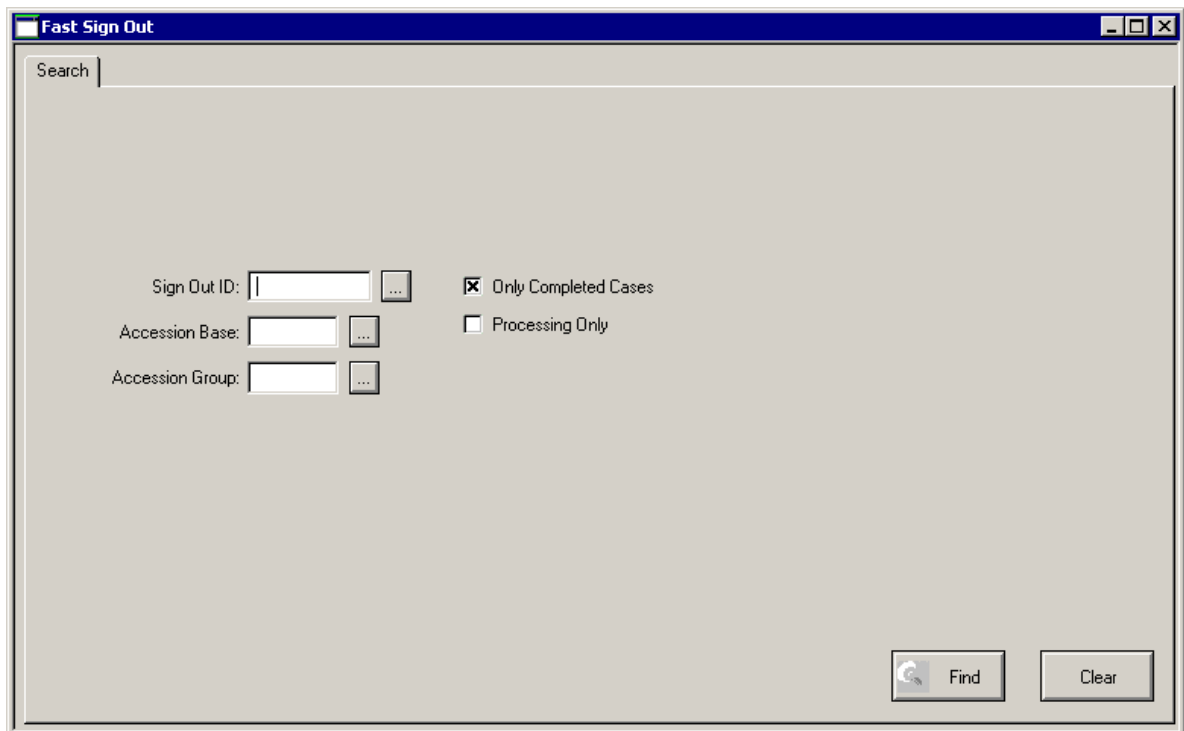

Figure 3-64. Fast Sign Out Search Window
To access the **Fast Sign Out** option, select *Results > Sign Out Entry > Fast Sign Out* from the main menu. The **Fast Sign Out** search window (Figure 3-64) is displayed.
- Both the **Display Sign Out ID Window In Fast Sign Out** and **Ability to S/O Cases Only For Logged On Pathologist** check boxes are not marked. The **Fast Sign Out** search window is displayed similar to Figure 3-64. Enter search criteria and click **OK**. A list of cases that can be signed out and match the specified criteria is displayed.